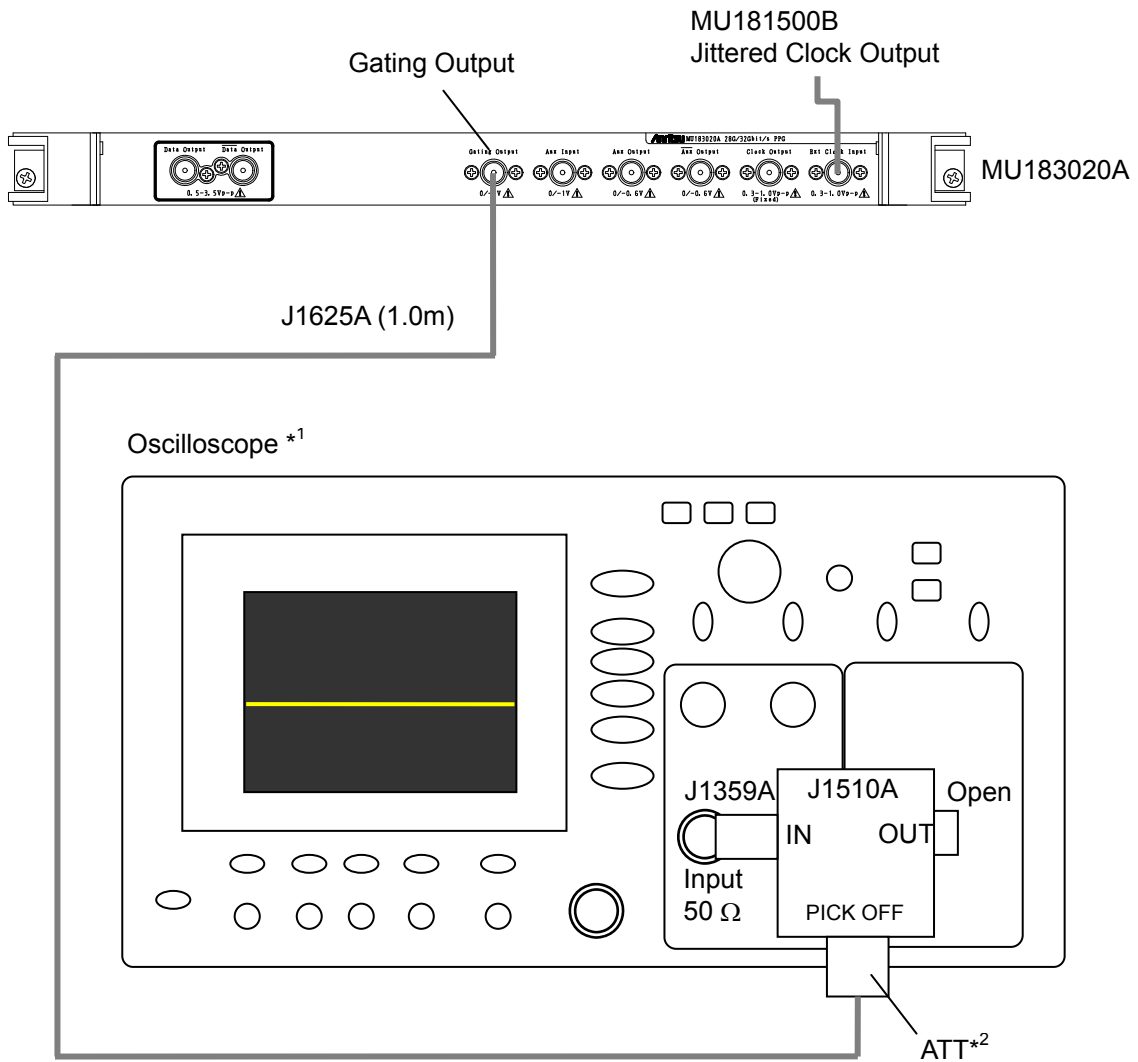

Figure 3.5.2-1 Connection for Selecting ATT Attenuation
3. Connect the MU183020A and oscilloscope as in Figure 3.5.2-1.